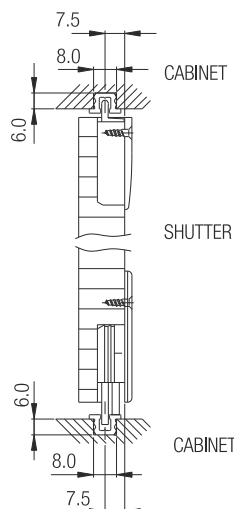

Fig.2
4. Rail is fitted in a slot at top and bottom of cabinet. Groove should be 8 mm wide and 6 mm deep as shown in Fig.2